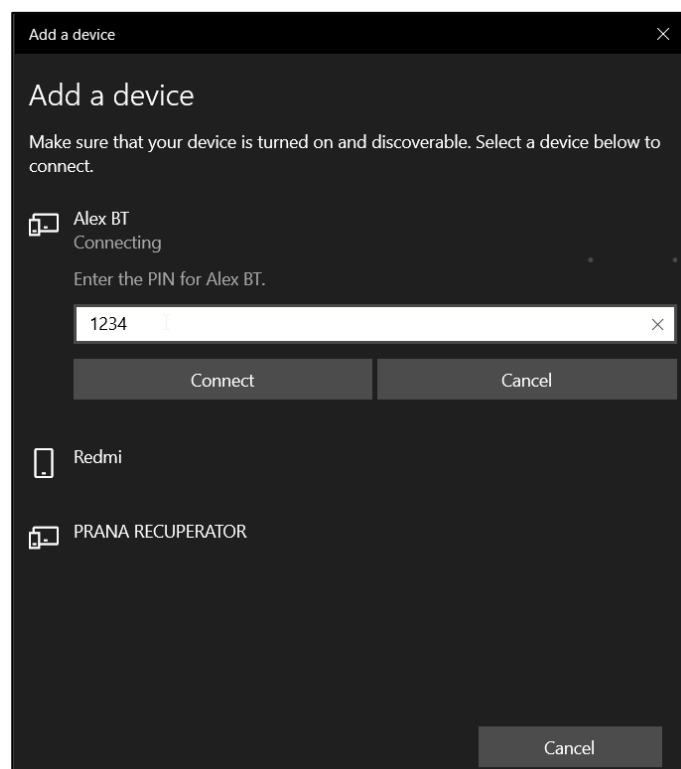

Fig. 6 Connecting to the selected device and entering the PIN code in Windows 10.
6. The connection will be established after entering the PIN code of the selected device and selecting the *"Connect"* option. The PIN code is permanently set to the sequence of characters: 1234 (Fig. 6).